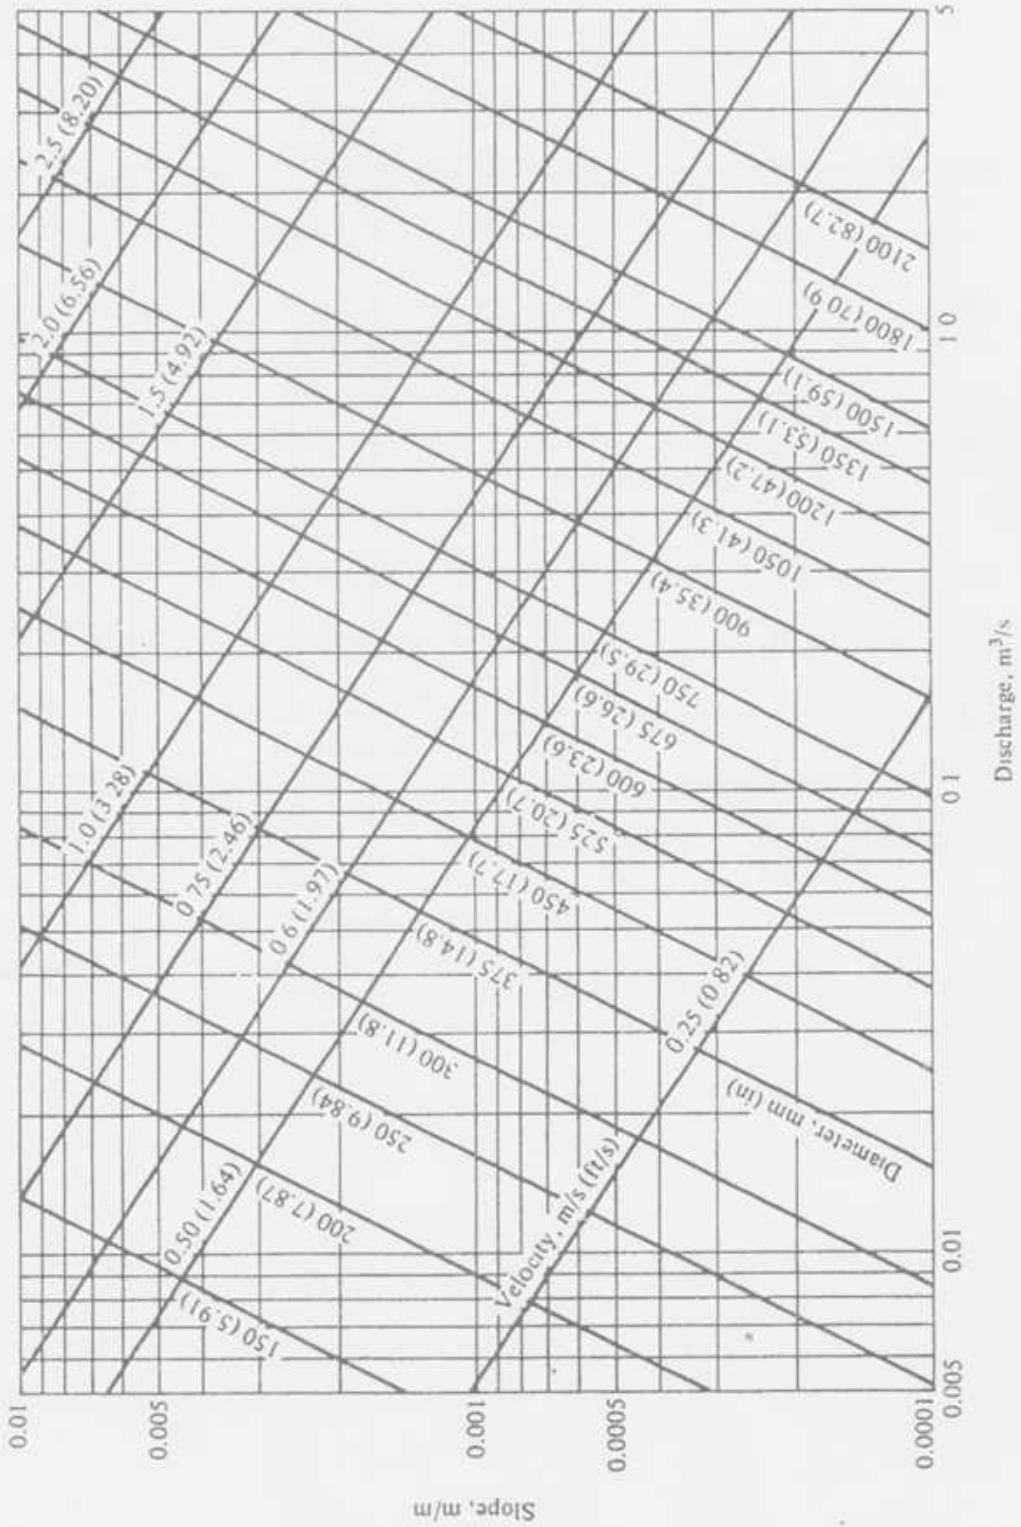

Figure 2: Nomograph for solution of Manning's equation for $n = 0.013$
- v) Manning's roughness coefficient for sewer is 0.013. The nomograph (Figure 2) is attached with the question paper.[Attach the nomograph (Figure 2) for this problem with your answer script]
2. (a) What are the objectives of sewage treatment? (5)